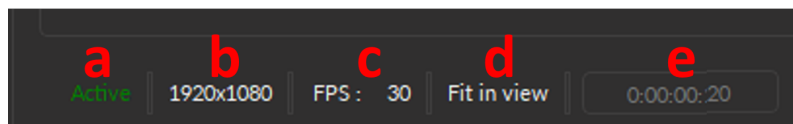

Figure 11.20: Live Monitoring bar
- a) The **Status** (Fig. 11.20, a) displays whether the camera is **Stopped**, **Active** or **Waiting for image**.
- b) The **Resolution** (Fig. 11.20, b) displays the current image size (in pixels x pixels).
- c) The **FSP** (Fig. 11.20, c) displays the current number of frames per second used to record the behavior video.
- d) The **Zoom** (Fig. 11.20, d) displays the current zoom value.
- e) The **Time** (Fig. 11.20, f) displays the amount of time since the camera was turned on in *d:hh:mm:ss*.